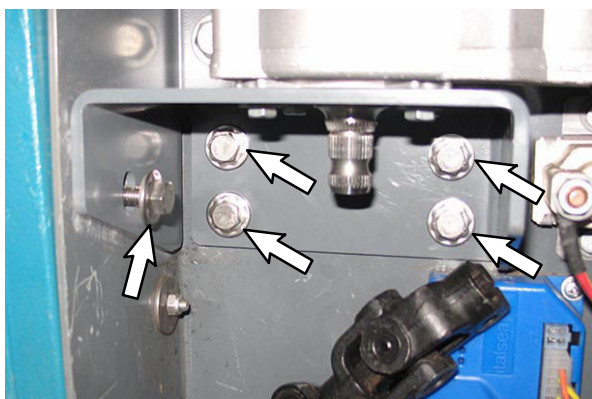

FIG. 35
35. Use five SEMS M8 hex screws (8) to install the power steering motor assembly (9)/(10) onto the steering support channel. Torque the SEMS M8 hex screws to 22 Nm (16 ft lbs). (Fig. 35)